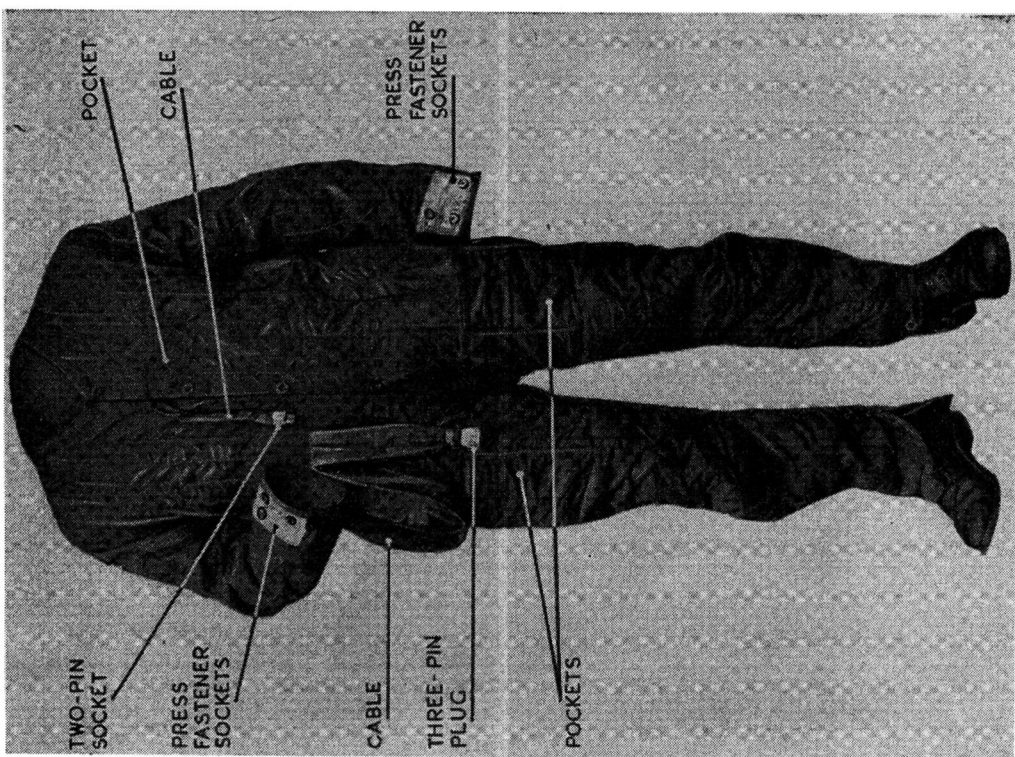

Fig. 3. Lining, front view
8. The lining (*fig. 3 and 4*) is a single-breasted garment made of Union twill or flameproof poplin. The electrical supply is taken through a 32 in. flexible cable which connects a distribution pad on the right hip to the supply socket. The plug leads for the oxygen mask heater should be